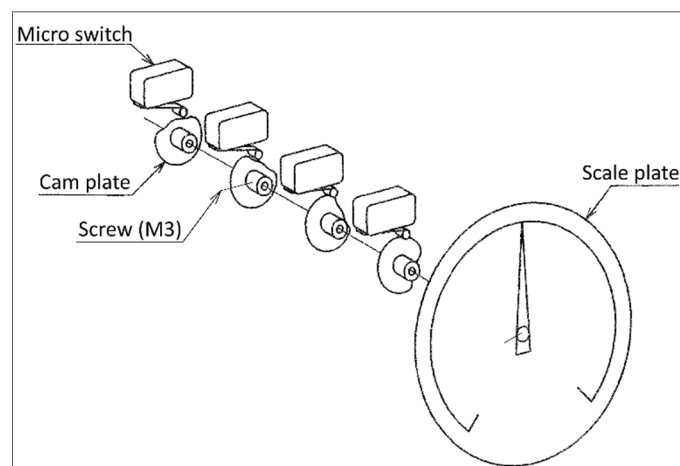

Figure 10.LT contact adjustment
6.2.2. Confirm the adjusting part with the contact identification attached on the micro switch assembled to the receiver on the back of the level gauge (Figure 10).